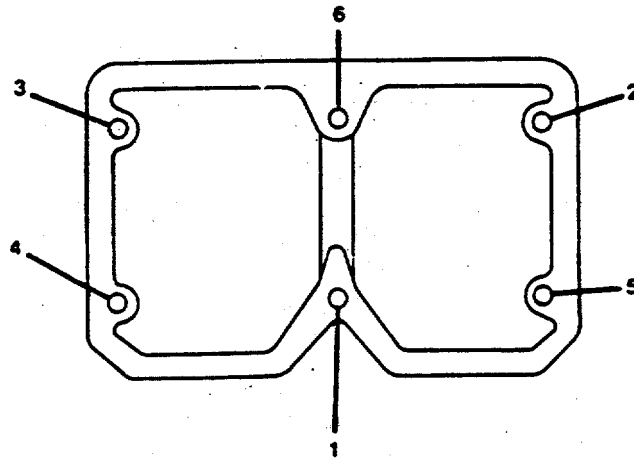

FIGURE 3-18. Rocker Housing Torque Sequence.
(4) Install the engine lifting brackets (10, 11) with hexagon head capscrews (9).
(5) Tighten the housing and bracket screws (9 and 15) to 60 ft-lb. (81.3 N•m) torque. Use the sequence shown in FIGURE 3-18 when tightening the housing assembled washer screws.